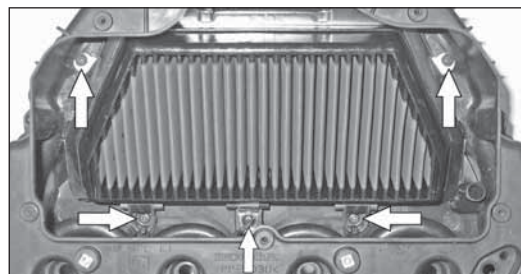

Fig 6.
7. Start the two screws on the filter plate first, drive the screws a majority of the way into the air box, then tighten the 3 screws next to the air horns. (Fig.6)